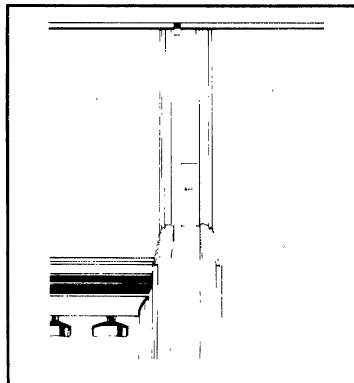

FIGURE 30
2. Check alignment of door at TOP CENTER. See Figure 30. If doors are aligned, go to step 4.